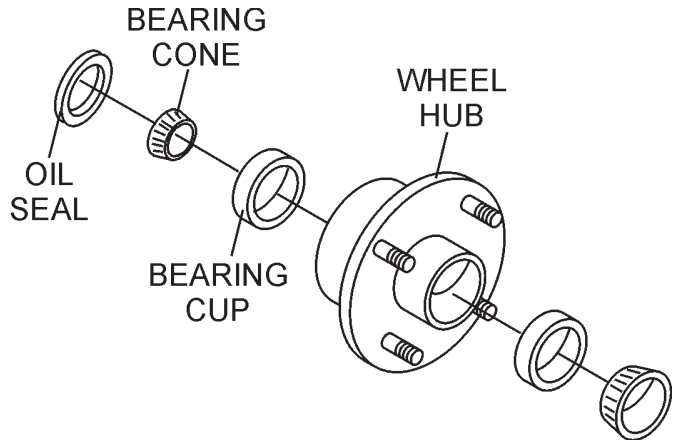

Figure 21. Wheel Hub and Bearings
1. After every 3 months of operation, remove the hub dust cap and inspect the wheel bearings (Figure 21). Once a year, or when required, disassemble the wheel hubs remove the old grease and repack the bearings forcing grease between rollers, cone and cage with a good grade of high speed wheel bearing grease (**NEVER** use grease heavier than 265 A.S.T.M. penetration ("No. 2."))
2. Fill the wheel hub (Figure 21) with grease to the inside diameter of the outer races and also fill the hub grease cap. Reassemble the hub and mount the wheel. Then tighten the adjusting nut, at the same time turn the wheel in both directions, until there is a slight bind to be sure all the bearing surfaces are in contact.